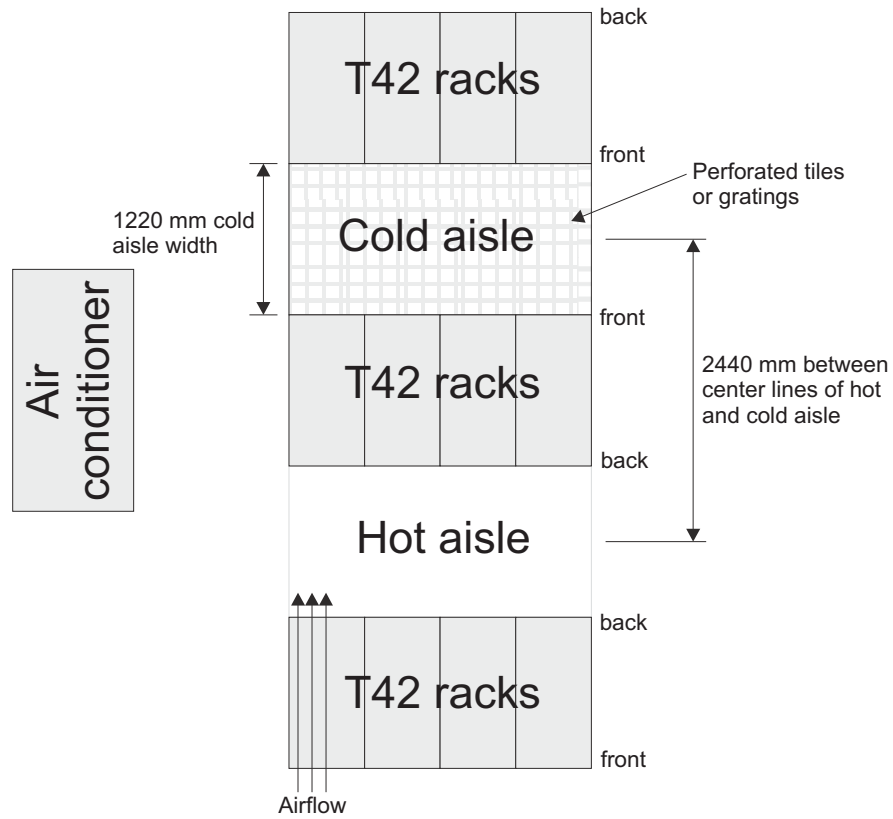

Figure 8. Example of cold aisle/hot aisle rack configuration
- Air enters at the front of the rack and leaves at the back. To prevent the air that is leaving the rack from entering the intake of another piece of equipment, you must position the racks in alternate rows, back-to-back and front-to-front. This arrangement is known as “cold aisle/hot aisle” and is shown in Figure 8 on page 15.